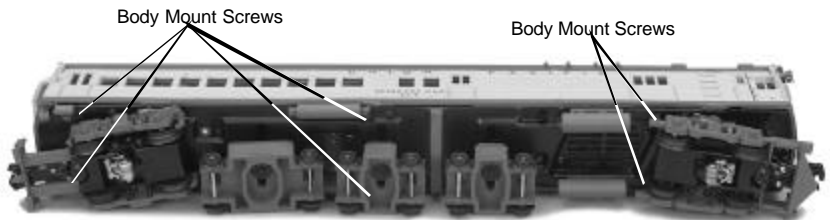

Figure 6. Locations of the Body Mounting Screws
1. To access the gear box, remove the cab from the chassis by unscrewing the chassis screws as seen in Figure 6 and lifting the cab from the chassis.